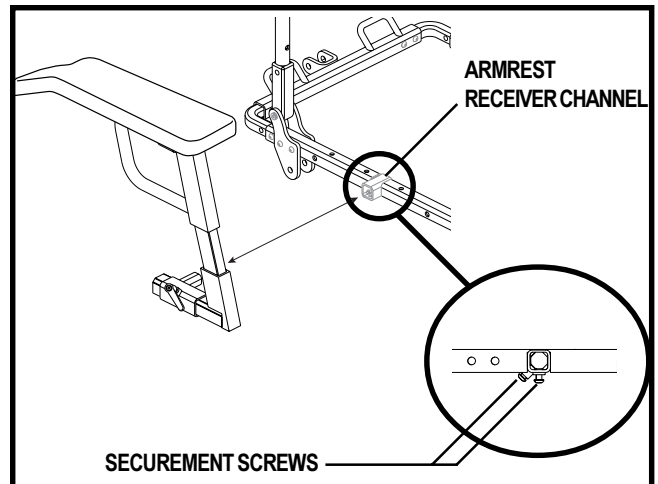

Figure 13. Armrest Width Adjustment
1. Loosen the securement screws located on the bottom of the armrest receiver channel. See figure 13.